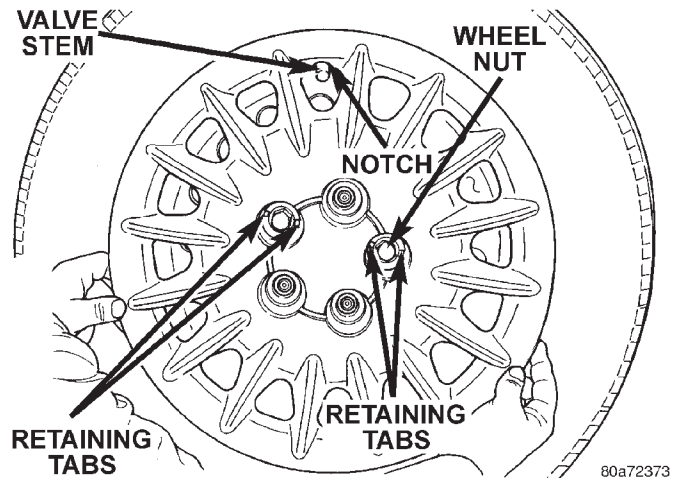

Fig. 13 Wheel Cover Installation Position
(1) Align the valve notch in the wheel cover with the valve stem on the wheel (Fig. 13). Align the two holes in the wheel cover having the retaining tabs,
with the two installed and properly tightened wheel nuts (Fig. 13).